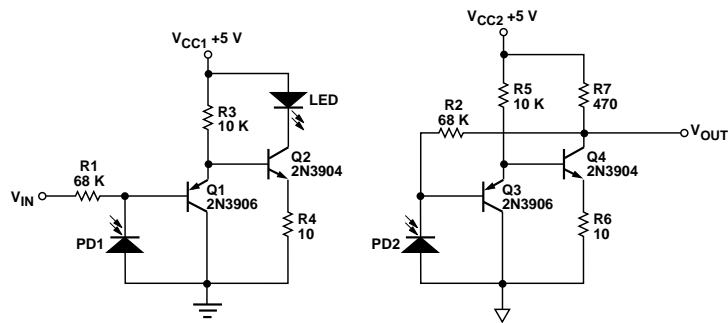

Figure 16. High-Speed Low-Cost Analog Isolator.
- IMRR is defined as the ratio of the signal gain (with signal applied to V_{IN} of Figure 16) to the isolation mode gain (with V_{IN} connected to input common and the signal applied between the input and output commons) at 60 Hz, expressed in dB.
The circuit shown in Figure 16 is a high-speed low-cost circuit designed for use in the feedback path of switch-mode power
Although it may not appear so at first glance, the circuit in Figure 16 is essentially the same as the circuit in Figure 12a. Amplifier A1 is comprised of Q1, Q2, R3 and R4, while amplifier A2 is comprised of Q3, Q4, R5, R6 and R7. The circuit operates in the same manner as well; the only difference is the performance of amplifiers A1 and A2. The lower gains, higher input currents and higher offset voltages affect the accuracy of the circuit, but not the way it operates. Because the basic circuit operation has not changed, the circuit still has good gain stability. The use of discrete transistors instead of op-amps allowed the design to trade off accuracy to achieve good bandwidth and gain stability at low cost.